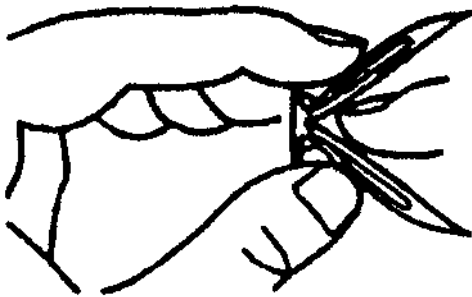

Figure 4 - Folding Anchor
- b. Fold wall anchor as shown in Figure 4 below.